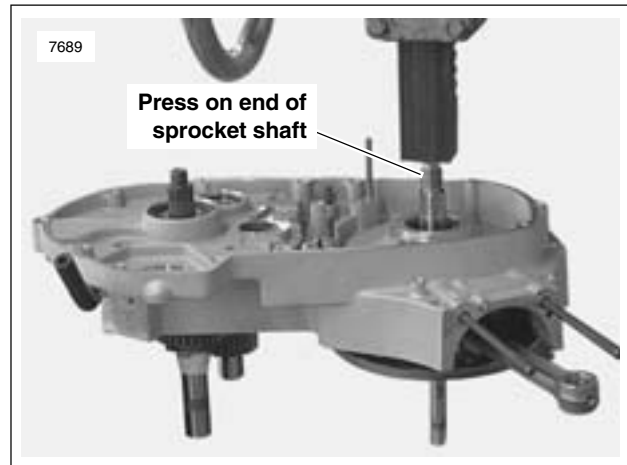

Figure 3-116. Pressing Flywheel from Crankcase
- See Figure 3-116. Mount the left crankcase half and flywheel assembly on a press table, supporting crankcase on parallel bars. Press on end of sprocket shaft with arbor press until flywheel assembly is free from crankcase half. Do not drive flywheel assembly from crankcase half as flywheels may be knocked out of alignment.